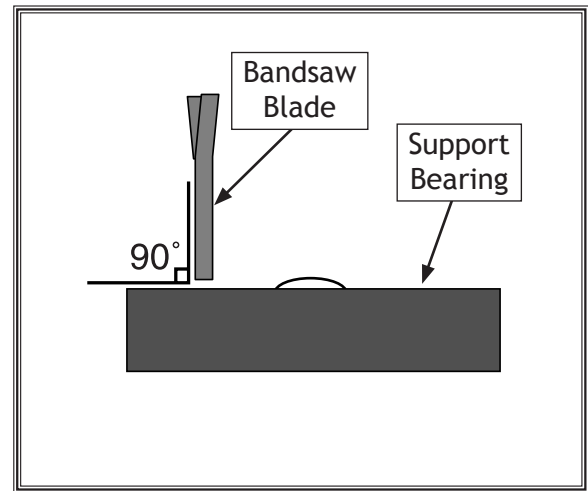

Figure 32. Illustration of blade set perpendicular (90°) to the support bearing face.
4. Loosen the guide block assembly cap screws and rotate the blade guide assembly side-to-side, until the blade is perpendicular with the face of the support bearing, as illustrated in Figure 32.
5. Make sure that the blade is perpendicular to the face of the support bearing, as illustrated in **Figure 32** on **Page 25**.